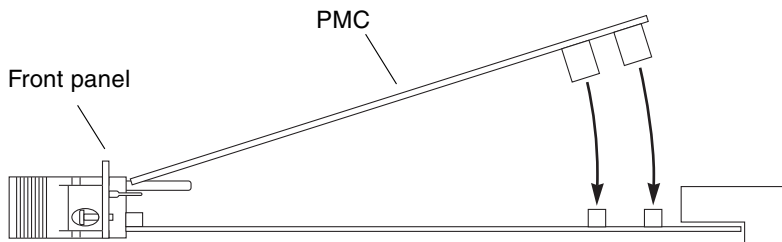

FIGURE 2-6 Pressing the PMC Into the PMC Connectors (Side View)
8. **Carefully press the PMC into the board's PMC connectors** (FIGURE 2-6).